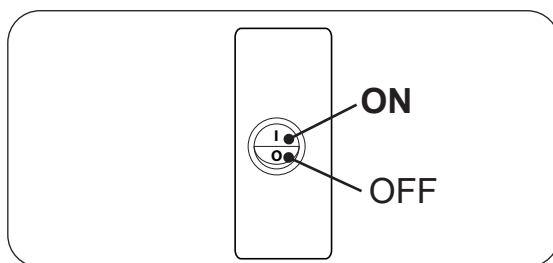

Fig. 35-2 Switch box, ON/OFF
2. Locate the ON/OFF switch at the front of the switch box. Press the switch to the **ON (I)** position. See Fig. 35-2.